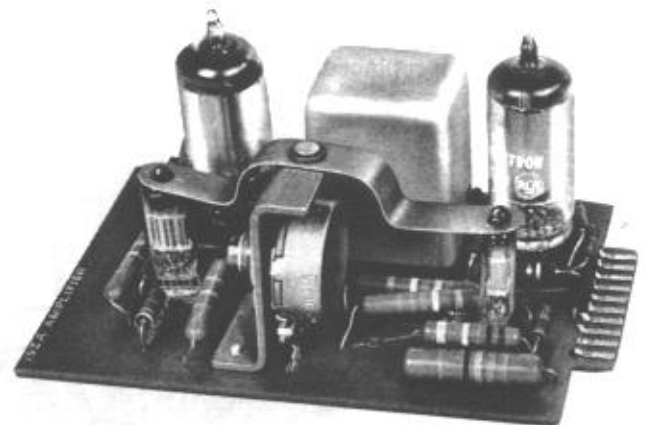
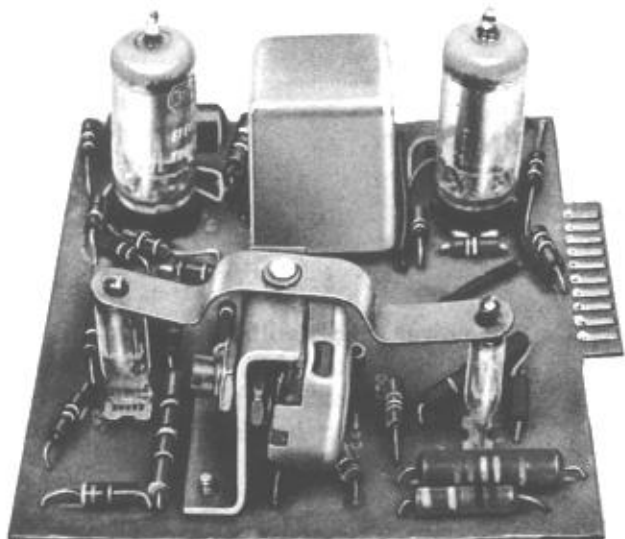

Fig. 1 — 152A Amplifier, Early Type
Fig. 2 — 152A Amplifier, Later Type
- On early type sets the amplifier will be similar to that shown in Fig. 1 but will not have a code number stamped on the card. (See Fig. 7 for circuit schematic.)
- On standard sets initial production will be equipped with the type amplifier shown in Fig. 1. The card will be stamped as shown. (See Fig. 8 for circuit schematic.) Later production sets will be equipped with the type amplifier shown in Fig. 2. The center of the card will be stamped 152A AMPLIFIER. (See Fig. 9 for circuit schematic.)